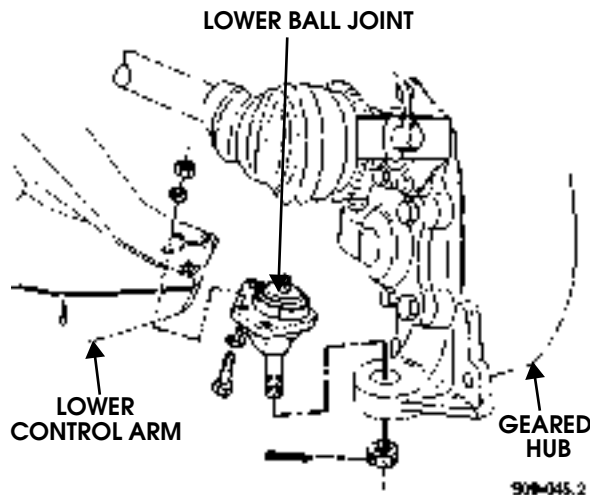

Figure 9-8: Lower Ball Joint Replacement
2. Raise and support lower control arm (Figure 9-8).
1. Install lower ball joint on lower control arm, ensuring lower ball joint is placed below lower control arm and secure with four bolts, locknuts and eight washers. Tighten 7/16" locknuts to 65 lb-ft (80 N•m) (Figure 9-8).